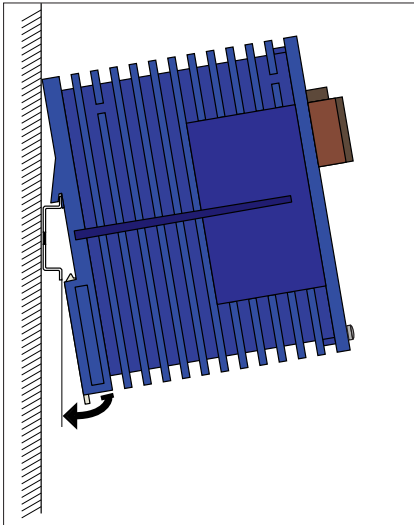
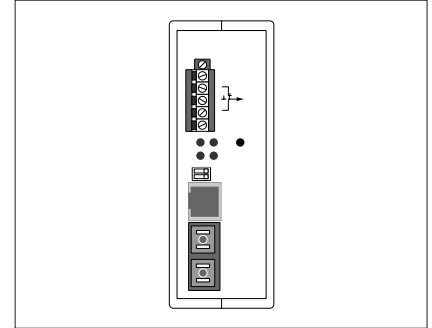

Fig. 5: Assembling Transceiver 100 Mbps TX/FX
Fig. 6: Dismantling
- Suspend the upper snap-in hook of the Transceiver 100 Mbps TX/FX in the ISO/DIN rail, insert a screwdriver horizontally under the housing into the locking slide pull this downwards (see Fig. 6, dismantling) and press the bottom of the module onto the ISO/ DIN rail until it locks in position (Fig. 5).
To take the Transceiver 100 Mbps TX/FX off the ISO/DIN rail, insert a screwdriver horizontally under the housing into the locking slide, pull it downwards and tilt the Transceiver 100 Mbps TX/FX upwards (Fig. 6).